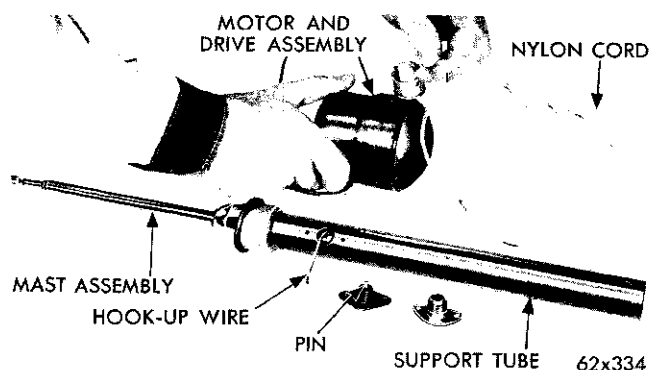

Fig. 8—Assembling Power Antenna
(1) If the original mast assembly is reused, thread the nylon cord through the bottom insulator with the tubular projection down (Fig. 8). Then thread the nylon cord through the water seal washers.